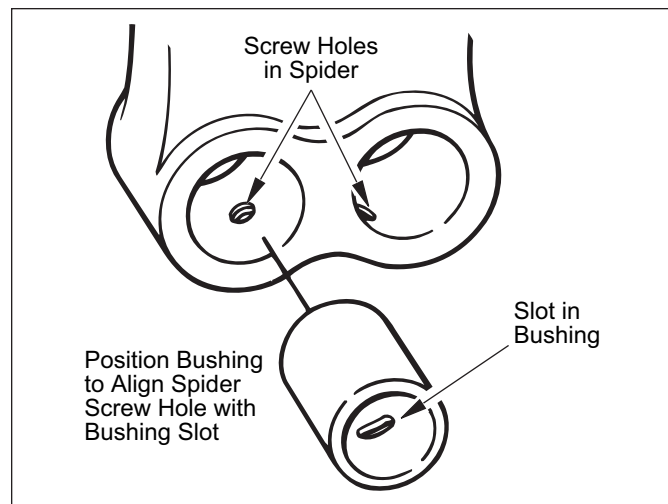

Figure 76. Spider Anchor Pin Bushing Installation
4. After driving out old anchor pin bushings from spider, see **Removal/Disassembly - Shoe Removal**, press new anchor pin bushings in spider, aligning slots in bushing with tapered holes in spider. Refer to Figure 76.